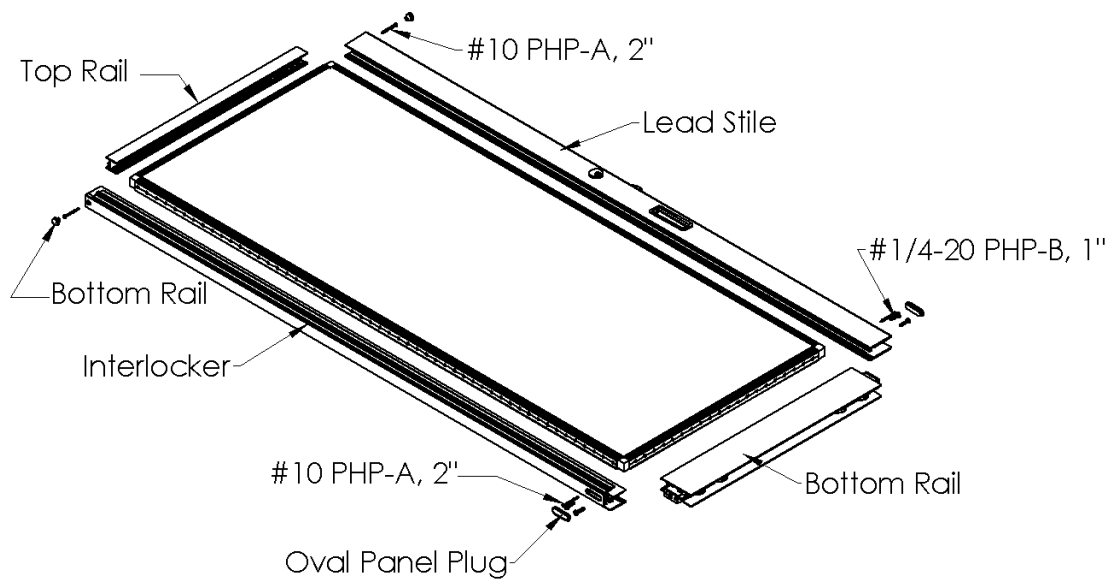

Figure 3:
6. Secure the stiles to the rails with (4) #10 x 2" pan head screws (Figure 3). Add wax to the ends of all fasteners to reduce the drive torque required for installation.